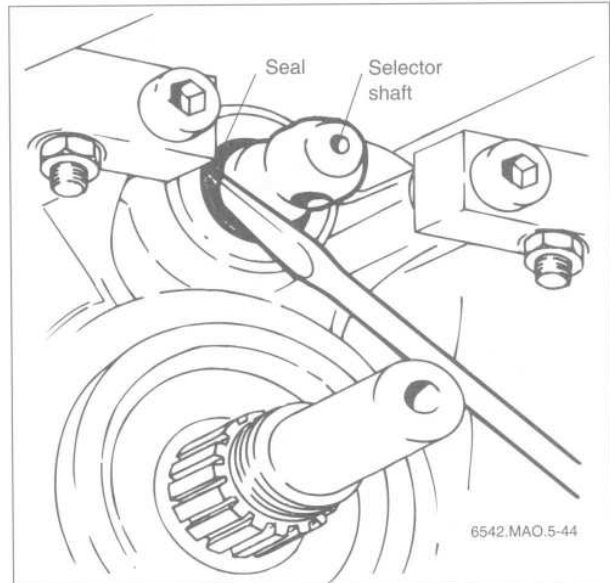

Fig. 4. Selector shaft oil seal being pried out with screwdriver.
4. Pry out seal using pick or small screwdriver. See Fig. 4.